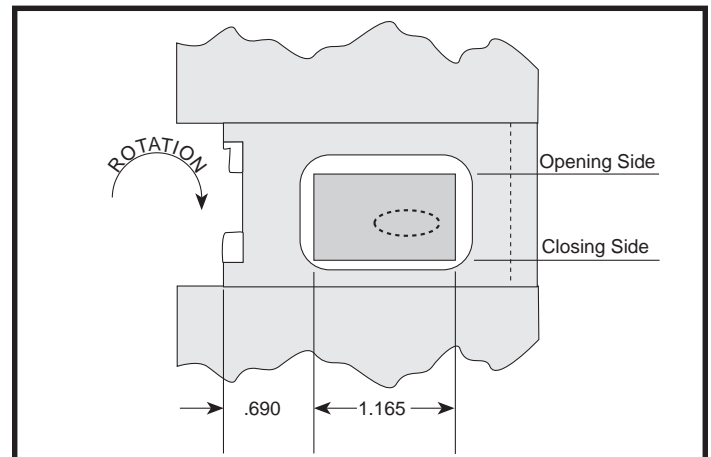

Figure 3
- S&S recommends grinding hole to maximum timing specifications. If there is any doubt and timing falls within specs, leave breather opening alone. **See Figure 3 for breather timing specifications.**
- G. Note location of hole in gear as opposed to hole in crankcases. **See Figure 3**. Grind hole in cases so location matches holes in gear with respect to where toothed portion of gear hits cases. **Picture 8** shows finished breather gear opening.